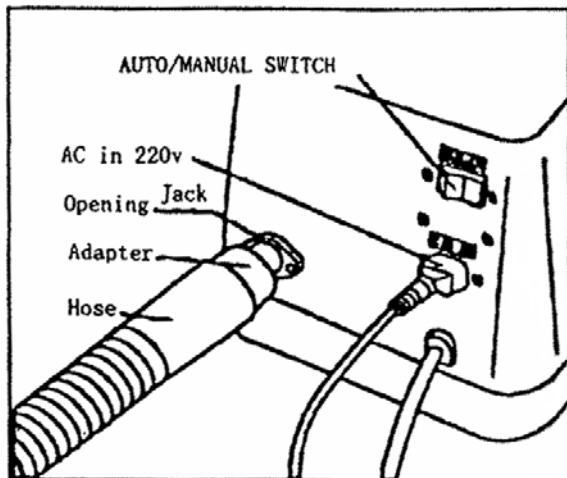

Fig 2
2. Flip the switch on the back of the polisher from Manual to Auto (Fig. 2).